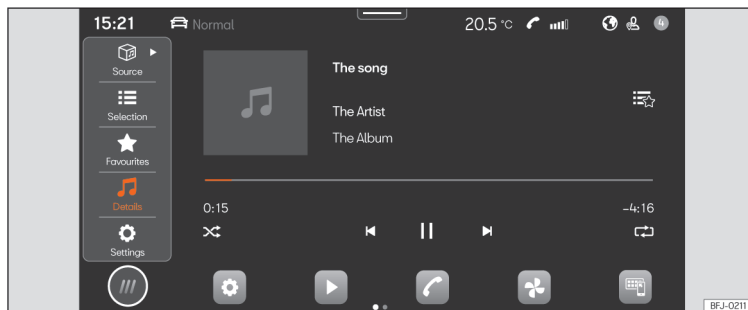

Fig.156 Schematic representation: Multimedia view
- Press **HOME** > ► >>> **Fig. 156**.